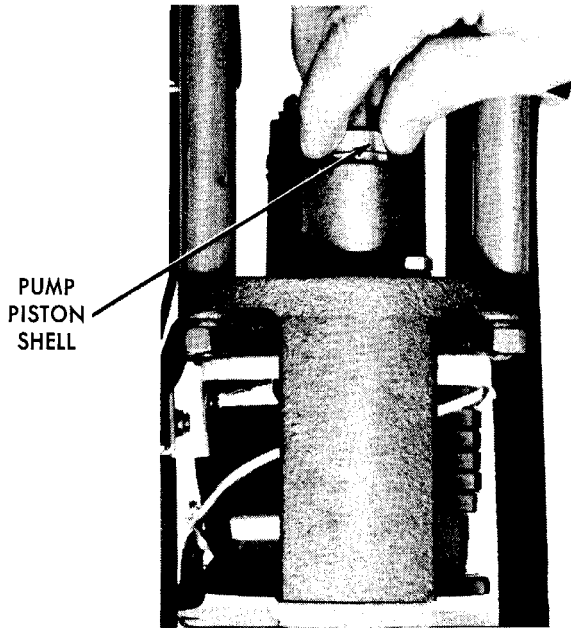

Figure 21. Increasing travel of trip rod
7. Turn pump piston shell clockwise to increase travel of trip rod. To decrease trip rod travel, turn pump piston shell counterclockwise. See Figure 21. Adjust in one-half turn increments and repeat step 5.